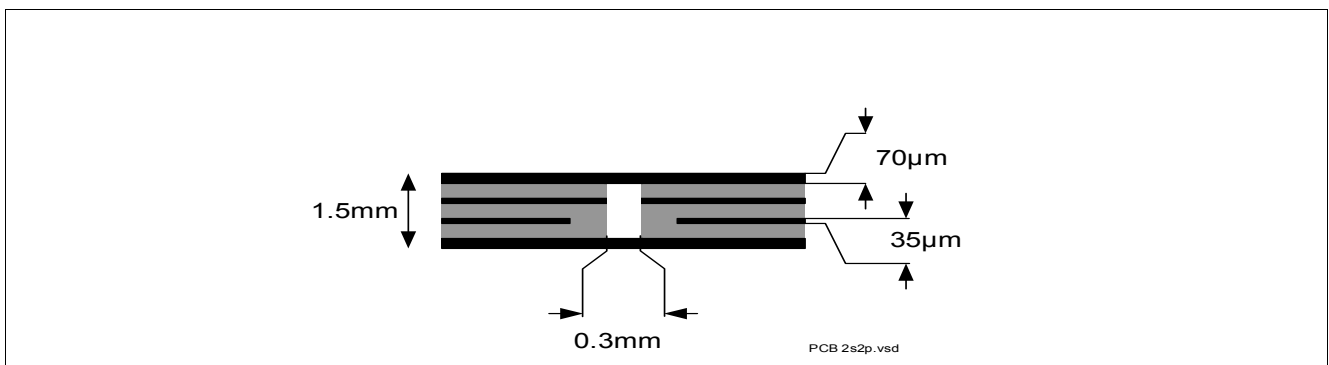

Figure 4 2s2p PCB Cross Section
- 2) Specified  $R_{thja}$  value is according to JEDEC JESD51-2,-5,-7 at natural convection on FR4 2s2p board; The product (chip + package) was simulated on a 76.4 x 114.3 x 1.5 mm board with 2 inner copper layers (2 x 70  $\mu$ m Cu, 2 x 35  $\mu$ m Cu). Where applicable, a thermal via array under the exposed pad contacts the first inner copper layer. Please refer to Figure 4.